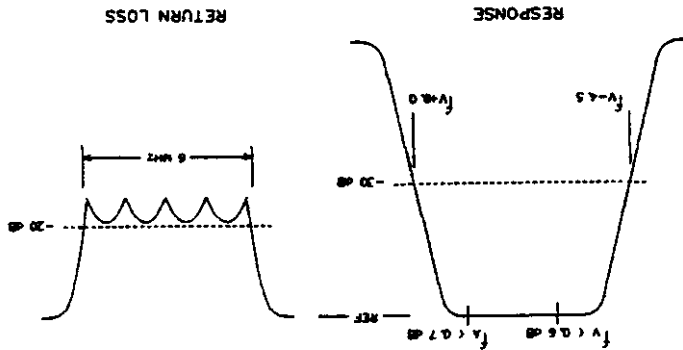
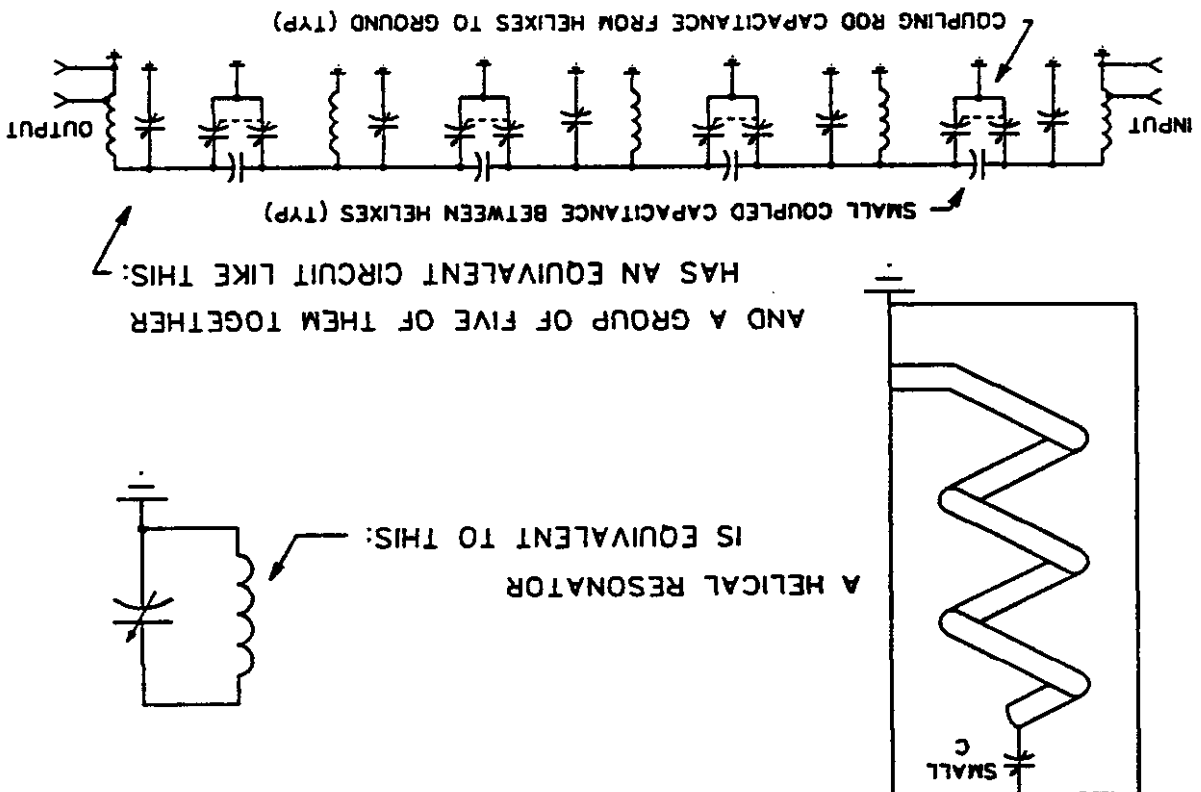

Figure 1: 5-Pole Bandpass Filter Curves.
Figure 2: Typical 5-Pole Bandpass Filter.
1. RF Pin Attenuator Board 10A1255G1: Figures 1 and 2. (Refer also to the RF Metering Board section of this manual)
The desired response shape is presented as Figure 1 below, and the filter electrical equivalents are presented on the next page as Figure 2. When we examine the assembly, and take capacitances into account, the equivalent circuit of a helical resonator becomes simply a parallel resonant LC tank circuit having low (trimmer) capacitance and relatively high inductance. Adjustment of the trimmer produces a change of capacitance, and the trimmer's moveable slug is shaped to appear as a shorted turn, which alters the inductance of the helix.
For system use, the tuning and coupling is adjusted for a flat topped response with steep sides, and the desired shape is such that $f_v - 4.5$ MHz and $f_v + 9.0$ MHz are both 30 dB down, but the carriers must be $f_v > 0.6$ dB and $f_v > 0.7$ dB departure from flatness. Input and output return loss must be 20 dB or better over the full 6 MHz bandwidth. These idyllic sweep curves are shown below as Figure 1.